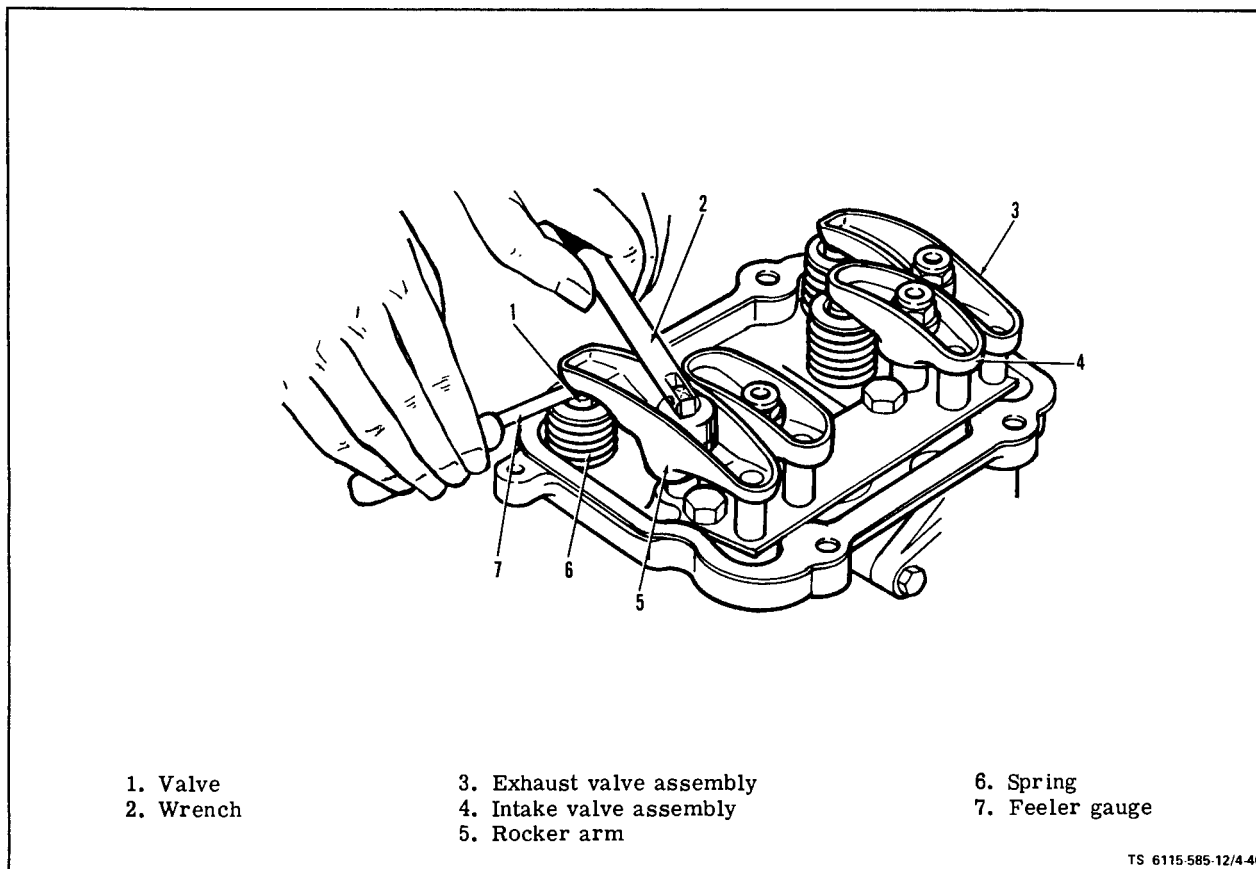

Figure 4-40. Checking and Adjusting Rocker Arm to Valve Clearance
a. **Inspect** (see figure 4-40). Inspect rocker arms for physical damage or excessive wear.
(1) Using 5/8" socket wrench and extension, turn the blower wheel clockwise until No. 1 cylinder is on its compression stroke, which follows the closing of its intake valve. See figure 4-40 for identification of intake valve assembly.
(2) Continue clockwise rotation until the letter "A" appears in the timing port on the side of the
(3) By using a feeler gauge, check the clearance between the rocker arm and the valve stem cap. See figure 4-40. Increase or reduce the clearance until the proper gap is established, adjusting with the lock-nut which secures the rocker arm to the cylinder head. Correct valve clearance is 0.010 for intake valve, 0.007 for exhaust valve.
(4) To adjust the valve clearance for No. 2 cylinder, turn the blower wheel clockwise 180° until the letter "B" appears in the timing port and adjust valves as given in step 3.
(5) Turn blower wheel an additional 180° until "A" again appears in the timing port and adjust valves for No. 4 cylinder as given in step 3.
(6) Turn blower wheel an additional 180° until "B" again appears in the timing port and adjust valves for No. 3 cylinder as given in step 3.
(7) Install rocker cover and tighten screws 7 to 8 ft-lb.